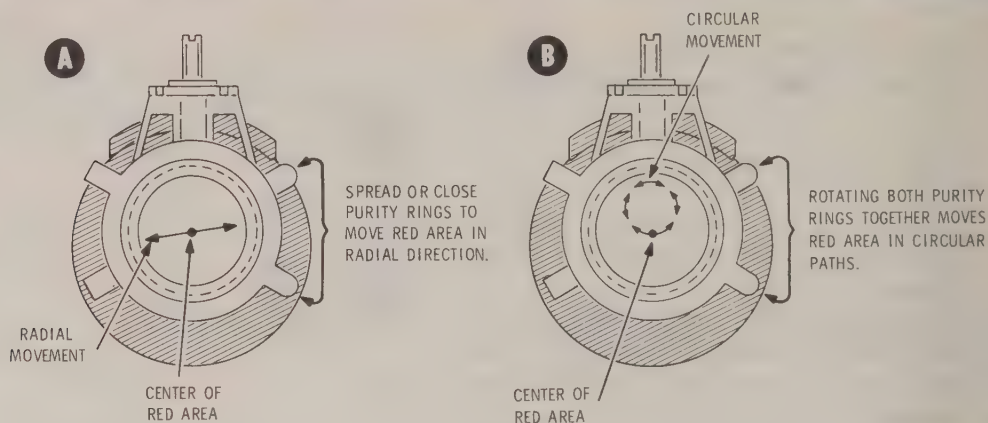

Figure 1-21
- 6. () Turn the purity rings until you obtain a **red area in the center of the screen**. See Photos E and F. Spreading the tabs apart or pushing them closer together moves the red area in a radial direction as shown in Figure 1-21 Part A. Rotating both purity rings in the same direction (maintaining the space between the tabs) moves the red area in a circular path as shown in Figure 1-21 Part B. **NOTE:** First, move only one ring about an inch in either direction; then move both rings in the same direction to move the red area toward the center of the screen. It may be necessary to increase or decrease the spread between the tabs. The tabs may end up in any position around the neck of the tube when the best results are finally obtained. Finally, adjust each of the rings separately to move the red area to the center of the screen.